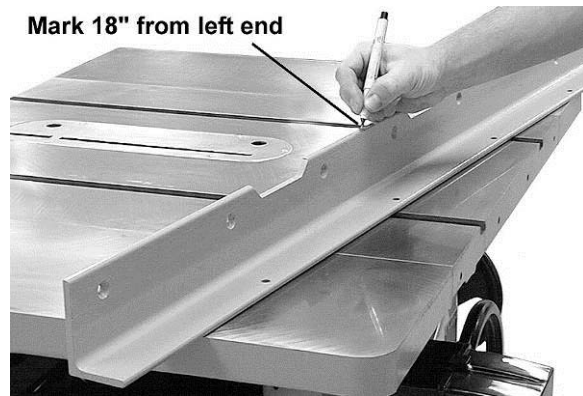

Figure 22
2. Place a mark 18" from the left end of the *front rail* (Figure 22). This mark will be lined up with the saw blade.